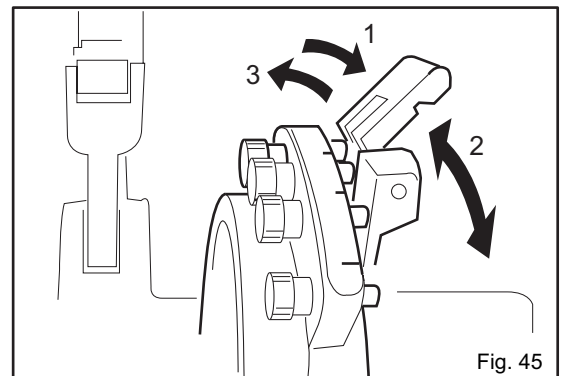

Fig. 45
1. Move the size setting lever on the die head in the direction of arrow 1 in Fig. 45. Then align the retaining pin with the size of the pipe to be cut. Finally, insert the retaining pin into the slot in the size setting lever.